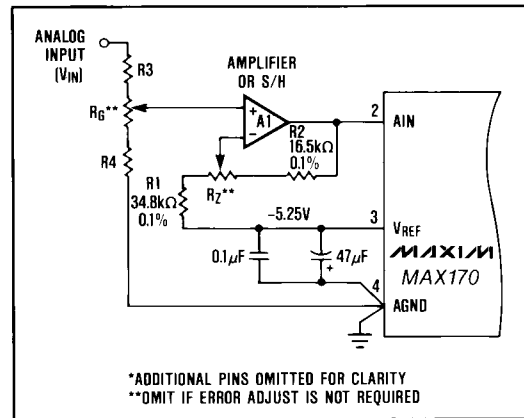
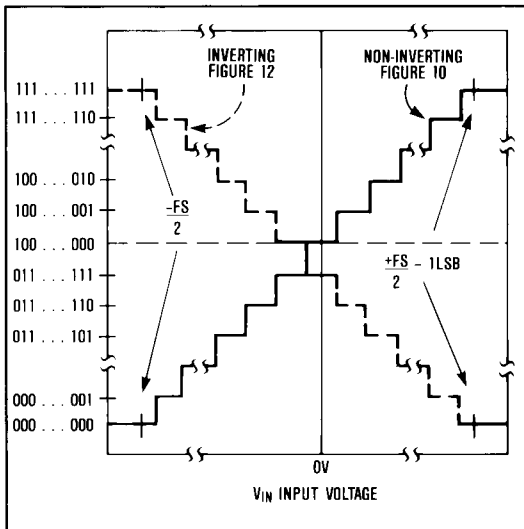
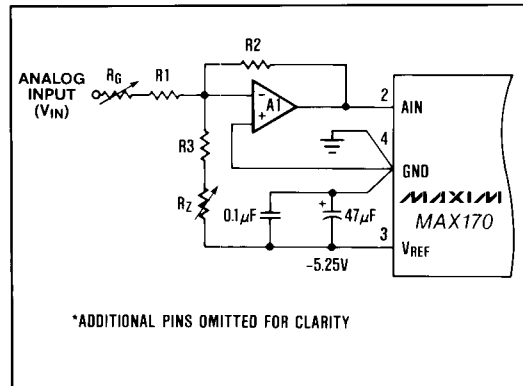

Figure 10. MAX170 Non-Inverting Bipolar Operation
Figure 11. Ideal Input/Output Transfer Characteristics for the Bipolar Circuits Shown in Figures 10 and 12
Figure 12. MAX170 Inverting Bipolar Operation
Figure 10 shows the bipolar operation in the non-inverting mode, where the output coding is offset binary. Figure 11 shows the ideal transfer function for this mode.
**Table 1. Resistor and Potentiometer Values Required for Offset and Gain Adjustment of Figure 10**
Figure 12 shows the bipolar operation in the inverting mode where the output coding is complementary offset binary. Figure 11 shows the ideal transfer function for the circuit in Figure 12.
For Non-Inverting (Figure 10)     1000 0000 0000
For inverting (Figure 12)         0111 1111 1111
For Non-inverting (Figure 10)     1111 1111 1110
For inverting (Figure 12)         0000 0000 0001
**Table 2. Resistor and Potentiometer Values Required for Offset and Gain Adjustment of Figure 12**